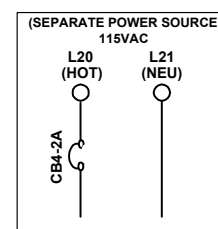

Figure 1-4
- The second circuit required common to all drive types (for the 1st controller of each group only) is a separate independent emergency backed single phase 120 VAC circuit for North America to supply power for the hall call circuitry. This circuit should also be a 15 AMP fused circuit. [See Figure 1-4.]